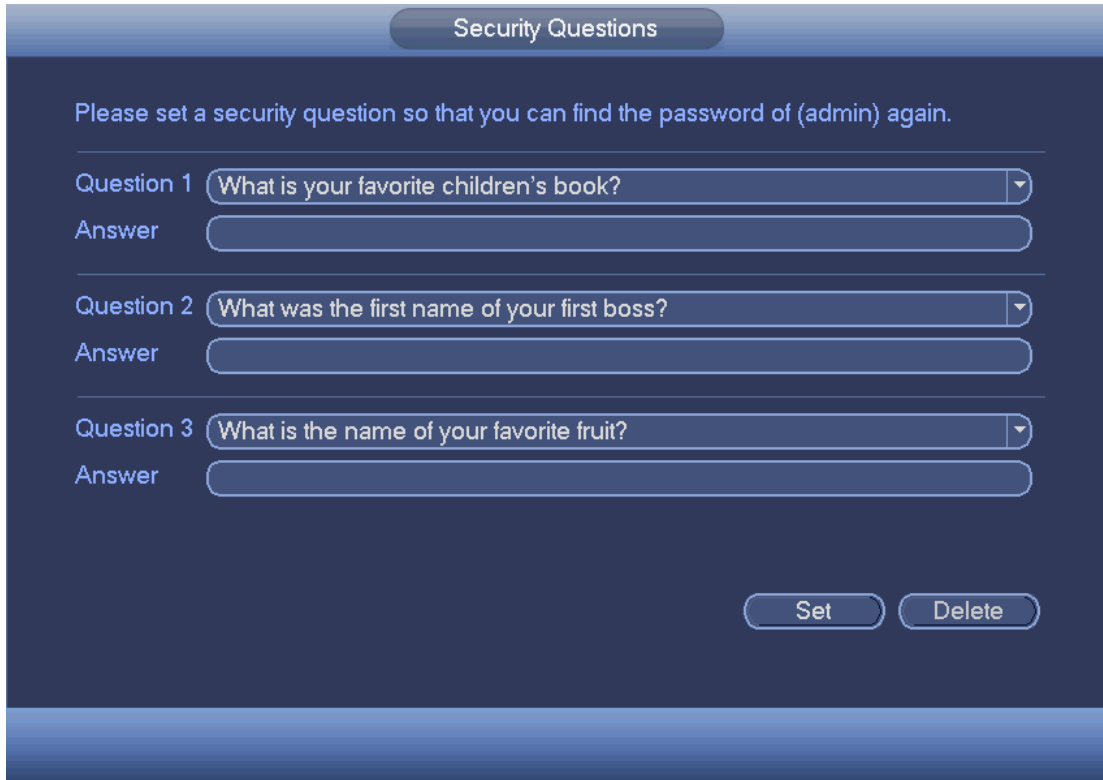

Figure 4-222
Step 1 Click Security question, enter the following interface. See Figure 4-222.